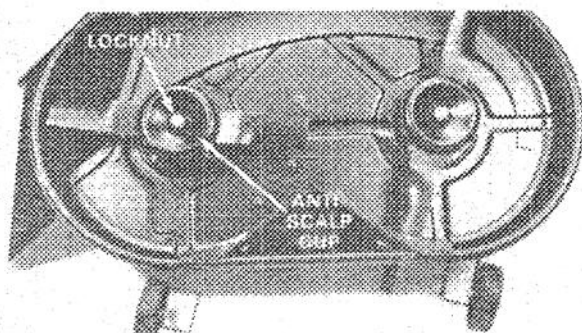

Figure 30
5. Turn cutting unit on its side, grasp the end of the blade with a rag or thickly padded glove; then remove the locknut, anti-scalp cup and blade (Fig. 30).
9. In sequence, install blade, anti-scalp cup and locknut (Fig. 30). Tighten locknut to 50-60 ft/lb (68-81 N·m).